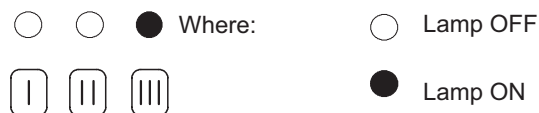

Figure 8.15
- 9 Press the reset button D once until the lamps F give the indication as in Figure 8.15 (boiler mode).